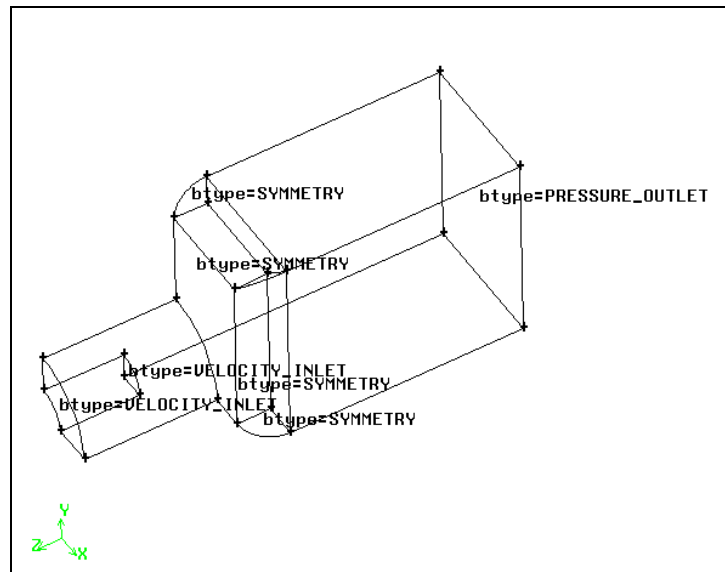

Figure 4-37: Boundary types for the combustion chamber
*The velocity inlet, pressure outlet, and symmetry boundaries for the 3-D combustion chamber are shown in Figure 4-37. To display the boundary-type labels in the graphics window, select the **Show labels** option on the **Specify Boundary Types** form. To display colors associated with each boundary-type assignment, select the **Show colors** option. (NOTE: GAMBIT automatically shades the faces for the **Show colors** option.)*